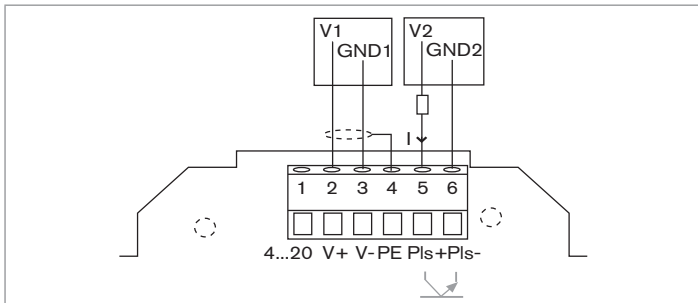

Figure 19: Connection of the frequency output to an electronic counter with its own power supply
- or to a load such as an electronic counter with its own power supply (see Figure 19)